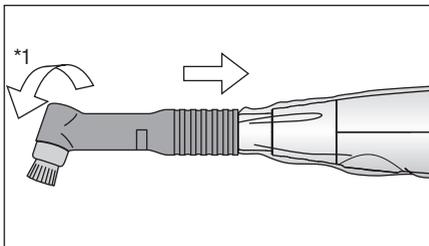

Fig. 3
- 3) Insert the disposable handpiece firmly and check that the connection is secure (Fig. 3, 4).
\*1 When attaching/detaching the disposable handpiece, turn it in the direction of arrow in Fig. 3.